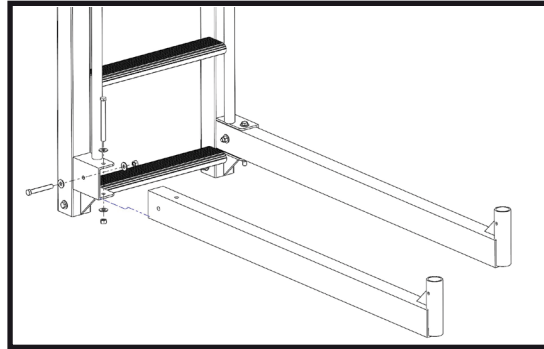

FIGURE 9
- Attach cradle to ladder using hardware provided in Kit #5. **Leave bolts loose.** See Figure 9.